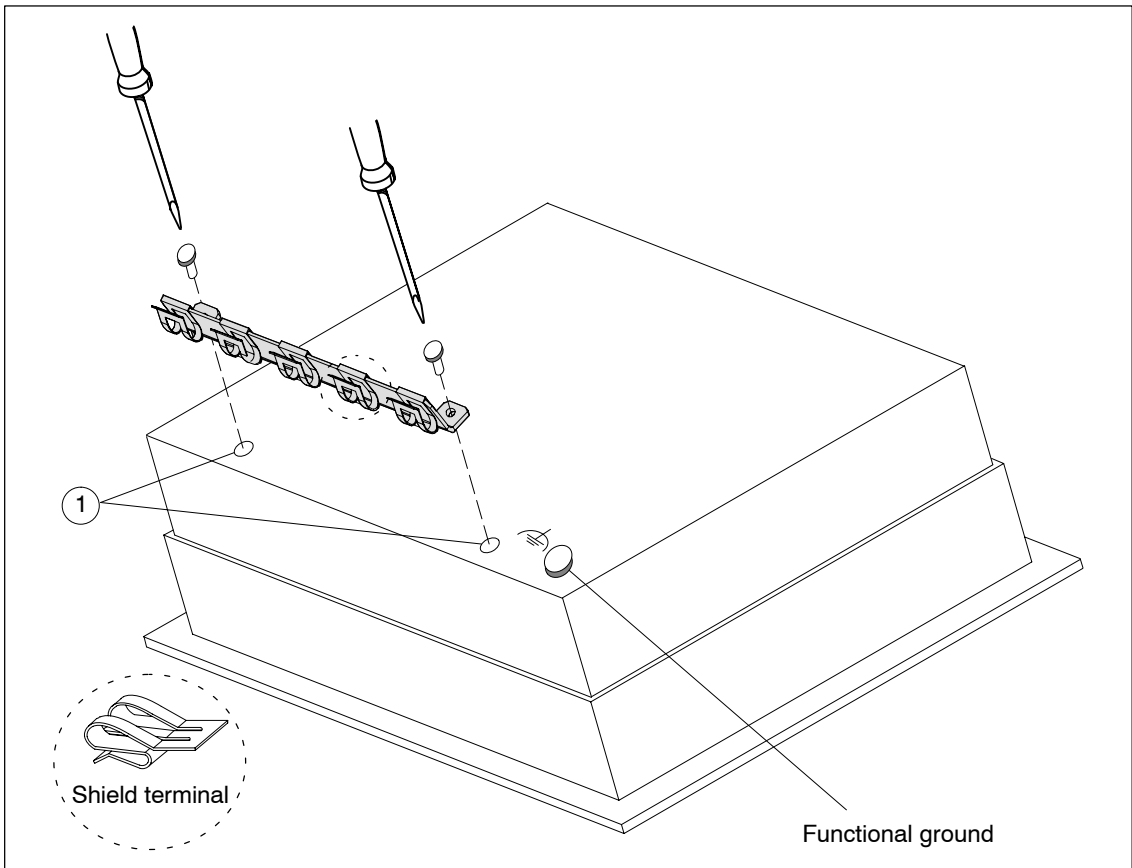

Figure 2-13 C7-613 with Grounding Bar, Shield Terminals, and Connection for Functional Ground
Connect the functional ground  (see Fig. 2-13) to chassis ground of the control cabinet, using a cable lug on a cable with a minimum conductor cross-section of 4 mm².
1	Mount the grounding busbar at the position shown in Fig 2-13, using the included screws ①.
2	Install the shielding terminals on the grounding busbar as shown in Fig. 2-13.